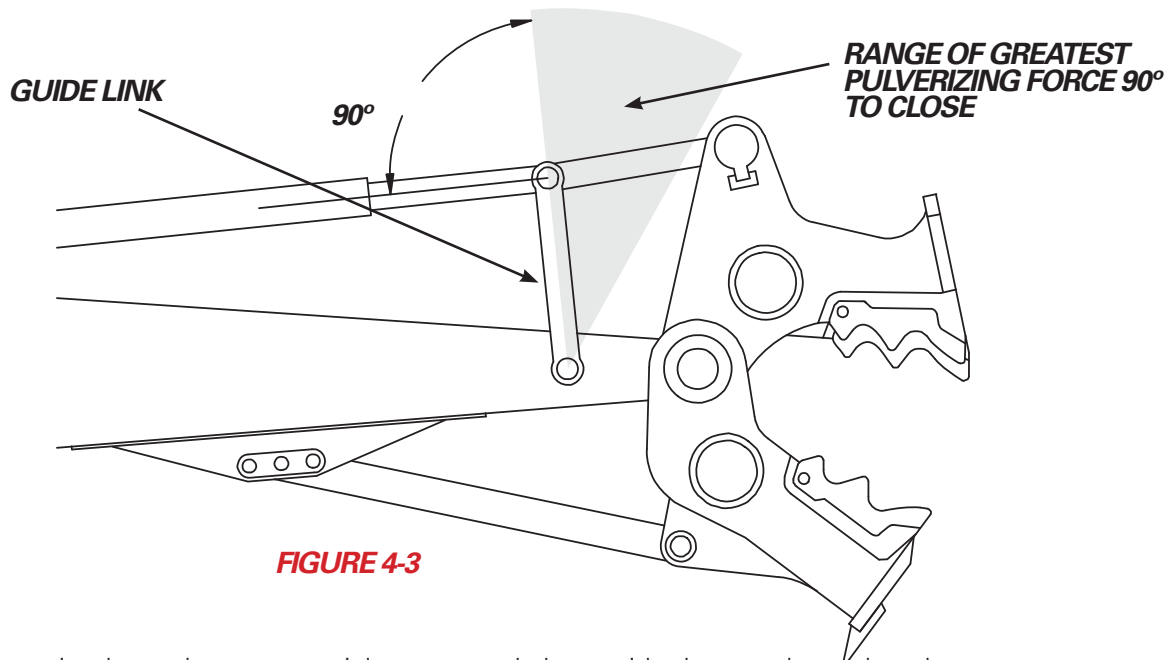

FIGURE 4-3
1. To get the most crushing force from the pulverizer, pin the position arm in a mounting pad hole that allows the guide link to travel beyond 90° to the bucket cylinder before crushing begins (see figure 4-3).